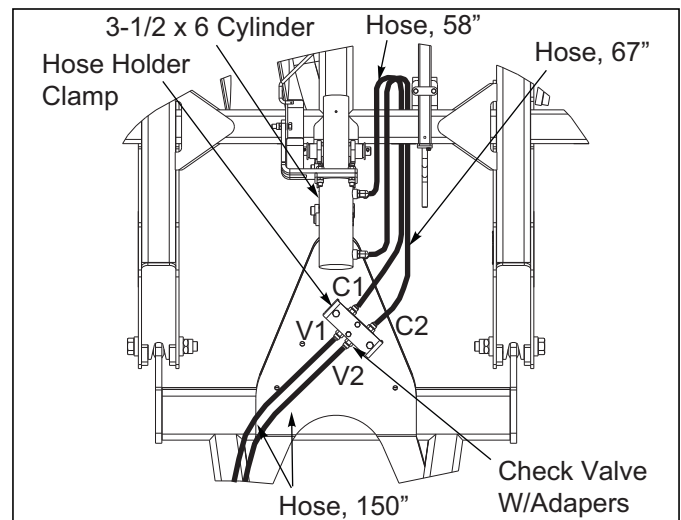

Figure 3-4: Check Valve Placement
15. Install check valve to hose clamp holder on hitch using 3/8 x 2 bolts and 3/8 lock nuts. Note that ports C1/C2 go to the 3-1/2 x 6 cylinder and ports V1/V2 go to the tractor See Figure 3-4.
17. Attach (2) 150" hoses from the check valve to the tractor. Install 3/4" male couplers on the ends of hoses